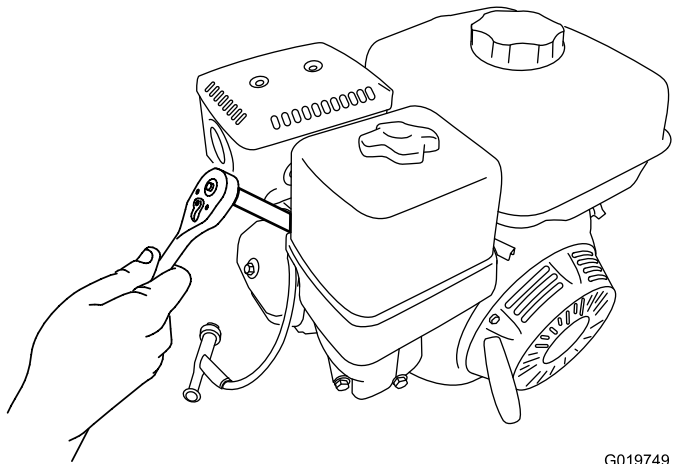

Figure 38
4. Rotate the spark plug counterclockwise using a 13/16 inch (21 mm) spark-plug wrench to remove the plug and the sealing washer (Figure 38).
2. Rotate spark plug clockwise using a 13/16 inch (21 mm) spark-plug wrench until the plug and sealing washer are seated (Figure 38).